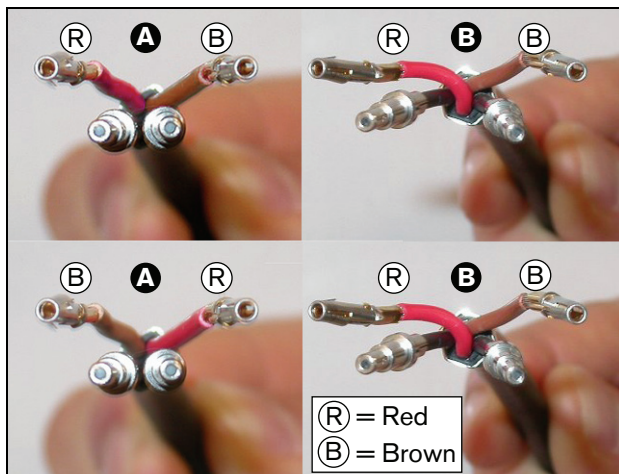

figure 30.31: Positioning the copper wires and fibers
- 26 Check if the copper wires and the plastic optical fibers have been positioned in the correct way (see figure 30.31).